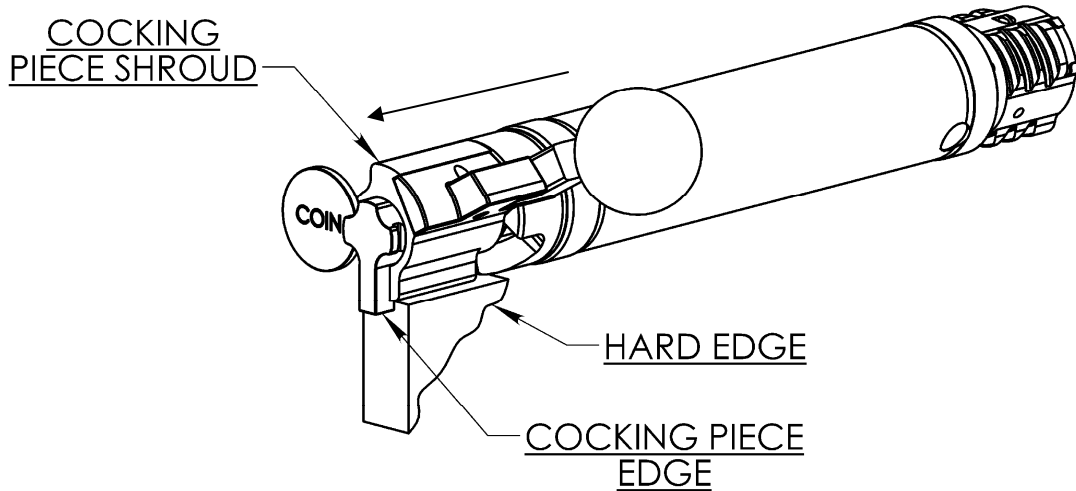

Figure 13.
2. Hook the edge of the cocking piece on a hard edge and pull the cocking piece out of the cocking piece shroud exposing the 2 (two) slots in the cocking piece. Insert a coin into either slot to retain the cocking piece in the disassembly position. (Figure 13)